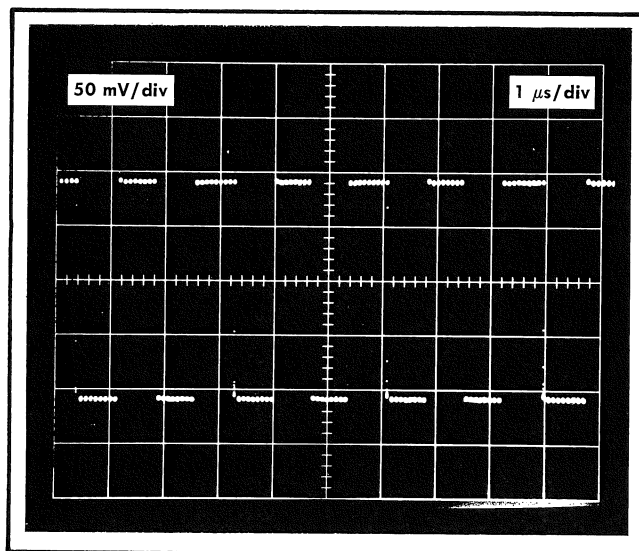

Fig. 5-10. False display for adjustment of C2.
b. Connect the oscilloscope Cal Out connector to the Type S-5 Input connector through a BNC coaxial cable and the Tektronix 15 pF normalizer (item 6.)
f. Check for a square front corner on the false display. If C2 needs adjustment, remove the Type S-5 case and adjust C2 for a square front corner and level top of the square wave, see Fig. 5-10.